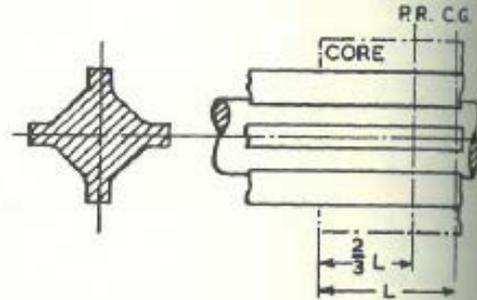

Fig. 2.
**Shafts with solid cruciform cross-section (Fig. 2)**